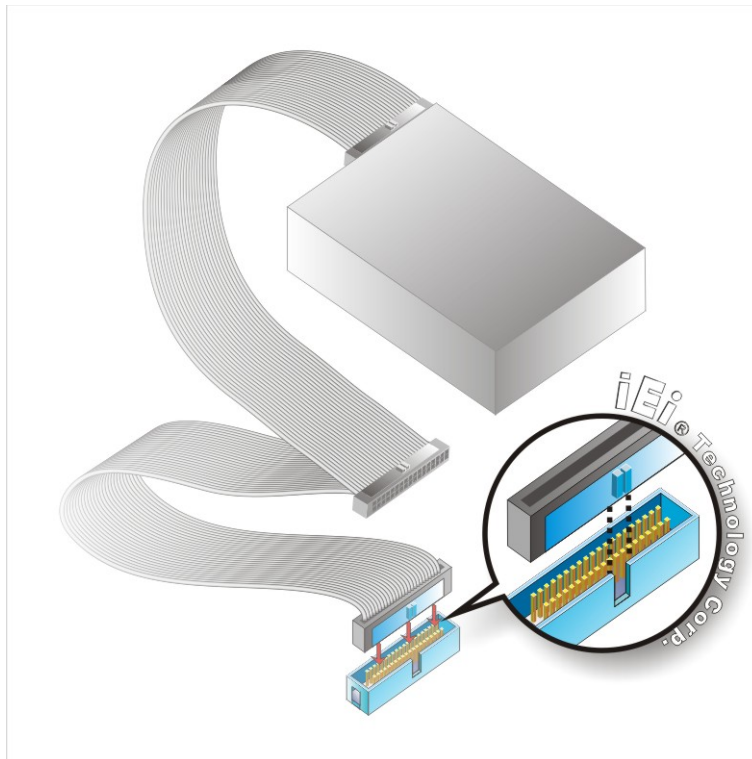

Figure 5-14: IDE Cable Connection
- Step 2: Insert the connector.** Connect the IDE cable connector to the on-board connector. See Figure 5-14. A key on the front of the cable connector ensures it can only be inserted in one direction.